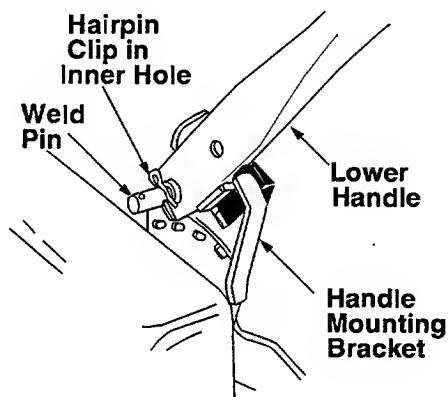

Figure 5
- Using a pair of pliers, squeeze one leg of the lower handle against the handle mounting bracket. Insert the hairpin clip into the inner hole on the weld pin. See Figure 5. Repeat on other side.